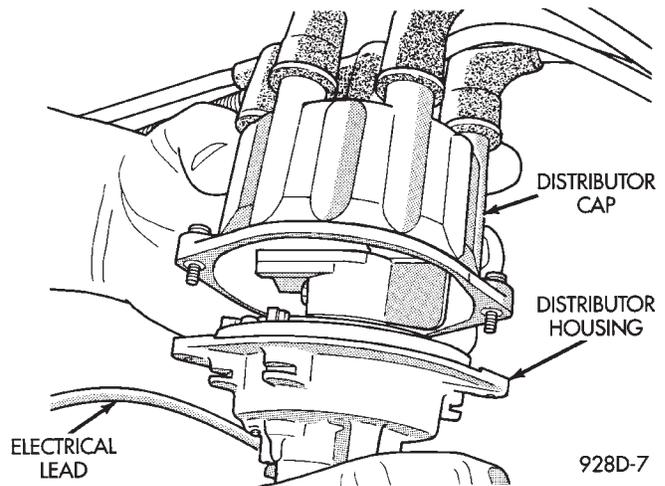
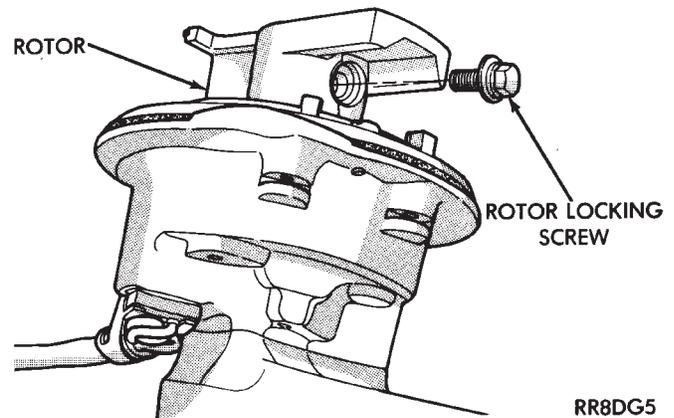

Fig. 21 Distributor Cap—3.0L Engine
Fig. 24 Rotor Screw
- (2) Loosen distributor cap retaining screws.
- (3) Lift cap of off distributor (Fig. 21).
- (4) Rotate engine crankshaft until the distributor rotor points the intake manifold plenum. Scribe a mark on the plenum in line with the rotor. The scribe line indicates where to position the rotor when reinstalling the distributor.
(1) Remove distributor cap mounting screws (Fig. 21).
(2) Remove distributor cap and inspect for flash-over, cracked carbon button, cracked cap, or burned terminals. If any of these conditions exist, replace cap.
(3) Remove rotor screw (Fig. 24). Inspect rotor for cracks or burned electrode. If any of these conditions exist, replace rotor.